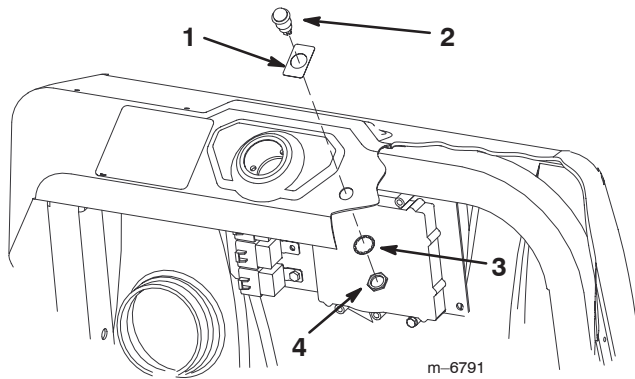
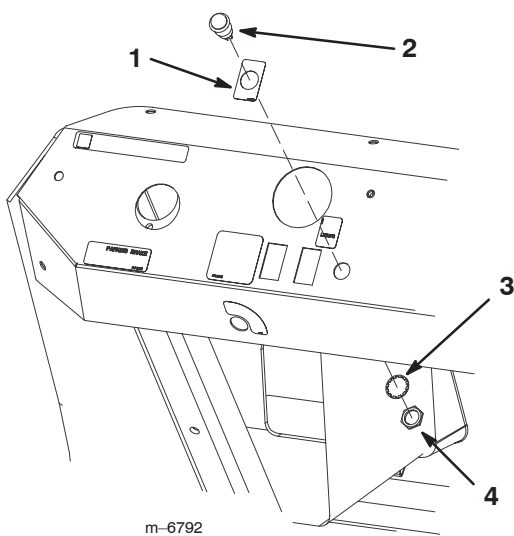

Figure 8
Figure 9
1. Install decal 94-8582 over the light hole in the dash (Fig. 8 for the Multi Pro 1200 and 1250 and Fig. 9 for the Multi Pro 5600 and 5700).
3. Install the light in the dash and secure it using the washer and nut (Fig. 8 or 9).